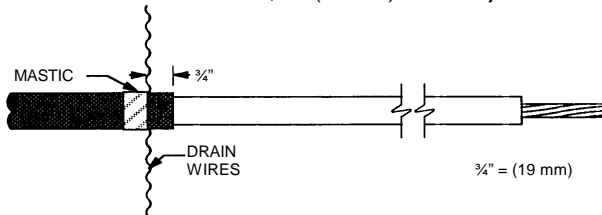

Figure 2
7. Bend drain wires away from cable (**Figure 2**).
Stretch the mastic slightly when applying. Cut off excess (**Figure 2**).